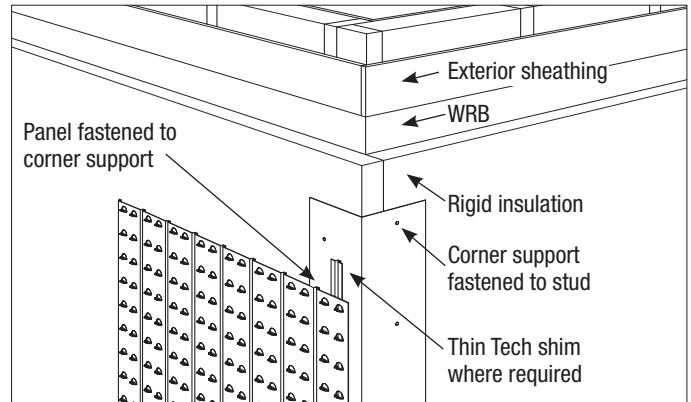

FIGURE 2 (ALSO SEE FIGURE 3 – PAGE 11)
Thin Tech Corner Supports increase the available area for attachment of Thin Tech panels and should be used to ensure secure attachment where the framing configuration or thickness of continuous insulation prevent alignment of vertical panel edges with studs at corners. Where needed, Thin Tech panels are installed on top of and fastened to corner supports, see Figures 2 and 3. (A shim must be installed to support vertical panel edges more than 2 in. from a channel.)
Thin Tech shims may be installed at outside corners to help square *Elite* panels at corners (see Figures 2 and 3).
- Align edge of Thin Tech shim behind cut edge of panel (with channel open to the exterior) and fasten to wall (see Figure 2). Fasten edge of panel to wall every 8 in. vertically through the channel of the shim.